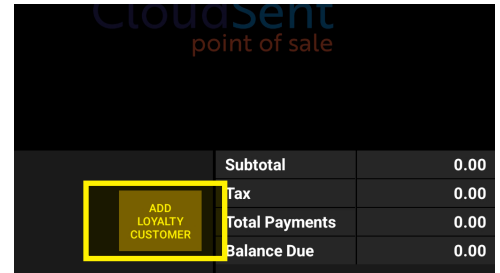

Figure 78
1. From the main screen go to Customer Menu. A new screen will appear that has four options (Figure 78).